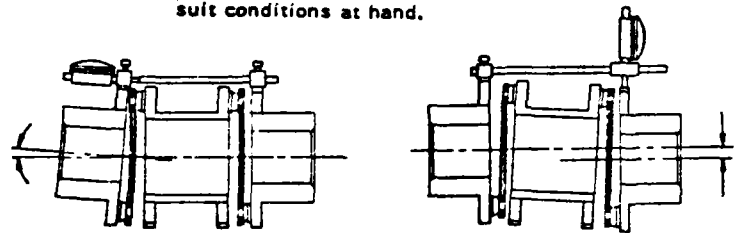

Figure 1
1. Rigidly attach dial indicator to flange, as shown in Figure 1. Rotate coupling 360° to locate point of minimum reading on the dial; set indicator to read zero at this point.